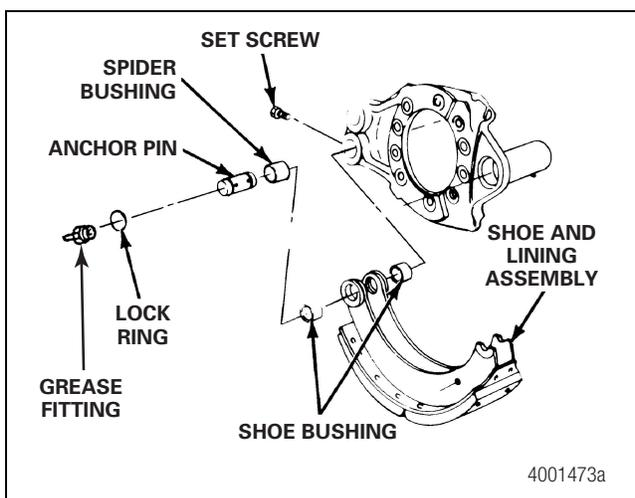

Figure 5.3
- A. **For a straight anchor pin with a lock ring and set screw**, remove the lock ring from the top of the anchor pin. Figure 5.3.
- B. Remove the set screw for the anchor pin from the side of the spider. Figure 5.3.